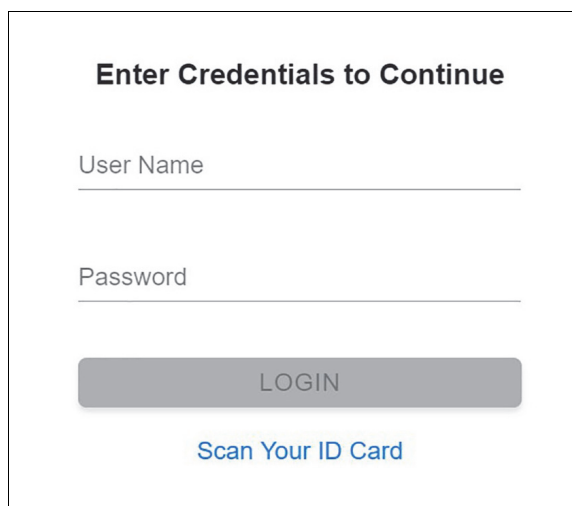

Figure 19. Enter Credentials to Continue Screen
- Depending on your configuration, the Enter Credentials to Continue screen may appear (see Figure 19). If enabled, you may log in by scanning your institutional ID. Otherwise, manually enter your User Name and Password and touch **LOGIN** to continue.